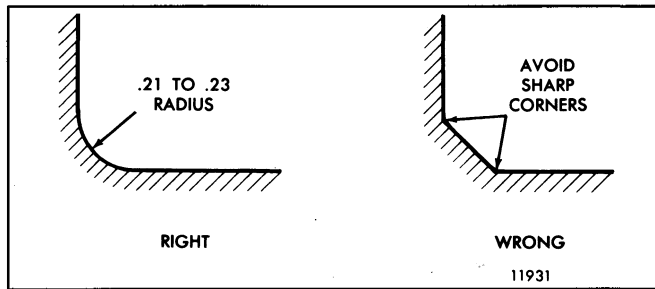

Fig. 7 – Crankshaft Journal Fillets
3. All journal fillets must have a .210" to .230" radius between the crank cheek and the journal and must not have any sharp grind marks (Fig. 7). The fillet must blend smoothly into the journal and the crank cheek and must be free of scratches. The radius may be checked with a fillet gage.